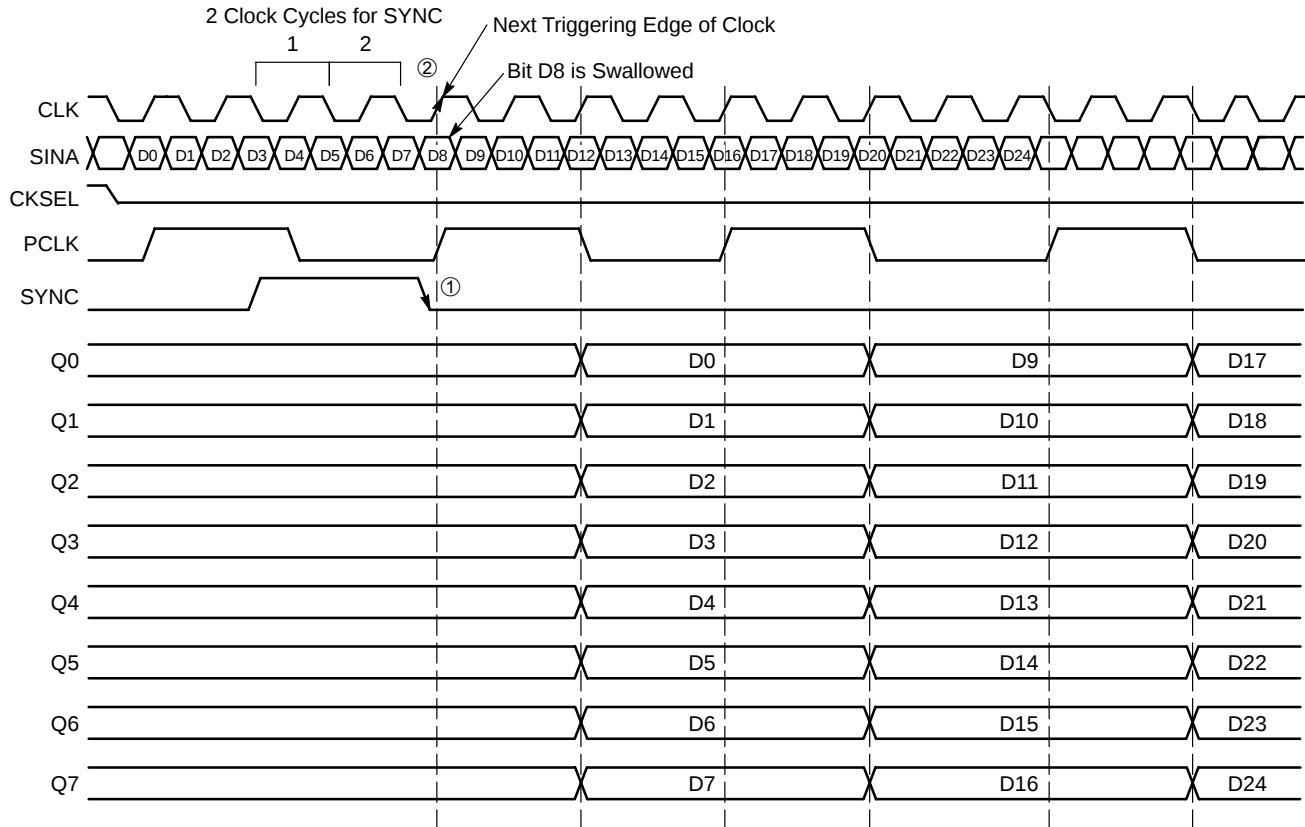
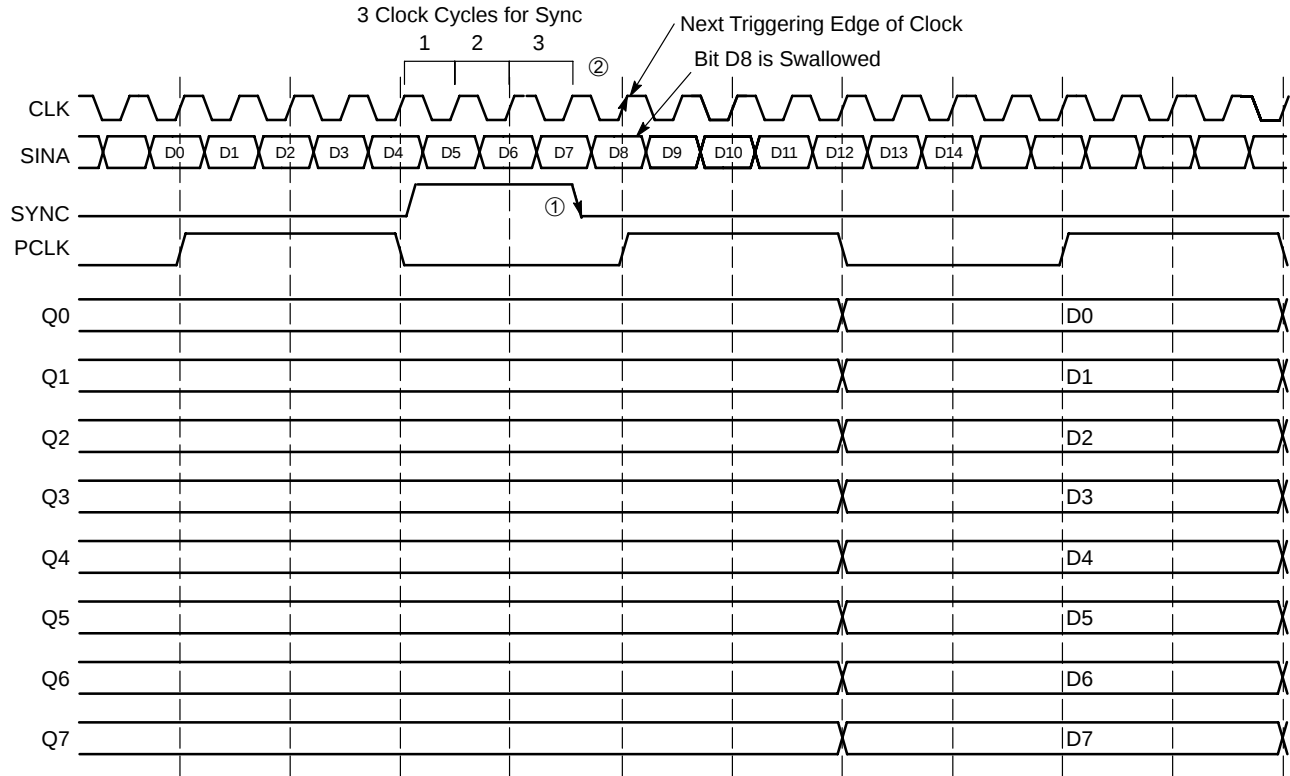

Figure 9. Timing Diagram A. 1:8 Serial to Parallel Conversion with SYNC Pulse at CKSEL LOW
Figure 10. Timing Diagram A. 1:8 Serial to Parallel Conversion with SYNC Pulse at CKSEL HIGH
To allow the user to synchronize the output byte data correctly, the start bit for conversion can be moved using the SYNC input pin (pin 2). Asynchronously asserting the SYNC pin will force the internal clock to swallow a clock pulse, effectively shifting a bit from the Q_n to the Q_{n-1} output as shown in Figure 9 and Figure 10. For CKSEL LOW, a single pulse applied asynchronously for two consecutive
clock cycles shifts the start bit for conversion from Q_n to Q_{n-1} . The bit is swallowed following the two clock cycle pulse width of SYNC① on the next triggering edge of clock② (either on the rising or the falling edge of the clock). Each additional shift requires an additional pulse to be applied to the SYNC pin. (See Figure 9)
triggering edge of clock② (on the rising edge of the clock only). Each additional shift requires an additional pulse to be applied to the SYNC pin. (See Figure 10)